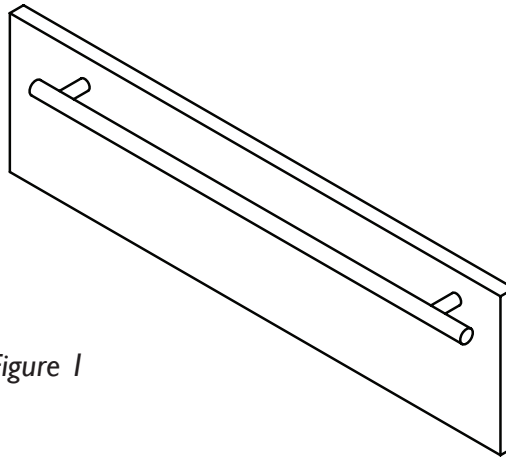

Figure 1
- As shown in *Figure 1*, a handle may be attached to the custom front panel if desired. Remember to countersink the handle screws, so the back surface is flush for attachment to the metal drawer front.